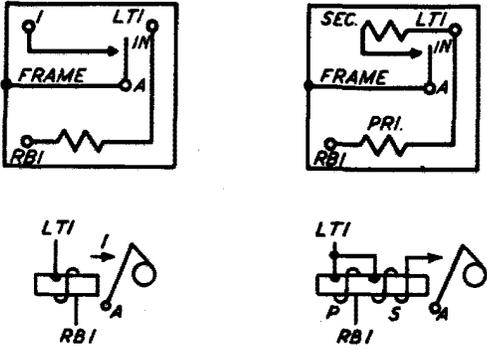

Fig. 106 - Winding and Spring Terminal Arrangement as Viewed From the Rear (terminal side) — 5-, 12-, 14-, 15-, 16-, and 18-Type Message Registers
4.13 5-, 12-, 14-, 15-, 16-, and 18-Type Message Registers: Connections to the frame of these registers are indicated by FRAME. Other terminals are designated as shown in Fig. 106.
16. To add 15-, 16-, and 18-type registers (4.13 and Fig. 106).